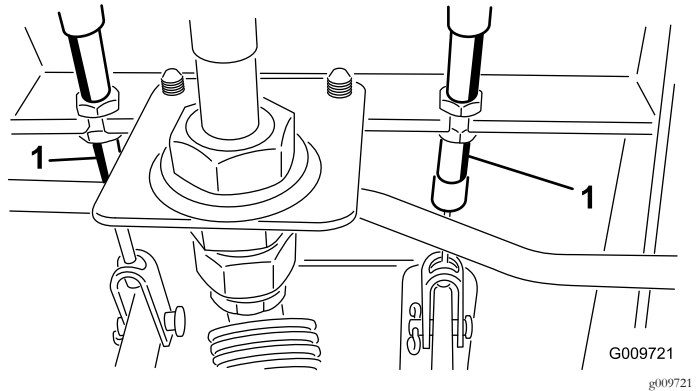

Figure 66
- A. Loosen the front nut on the threaded end of the brake cable (Figure 66).